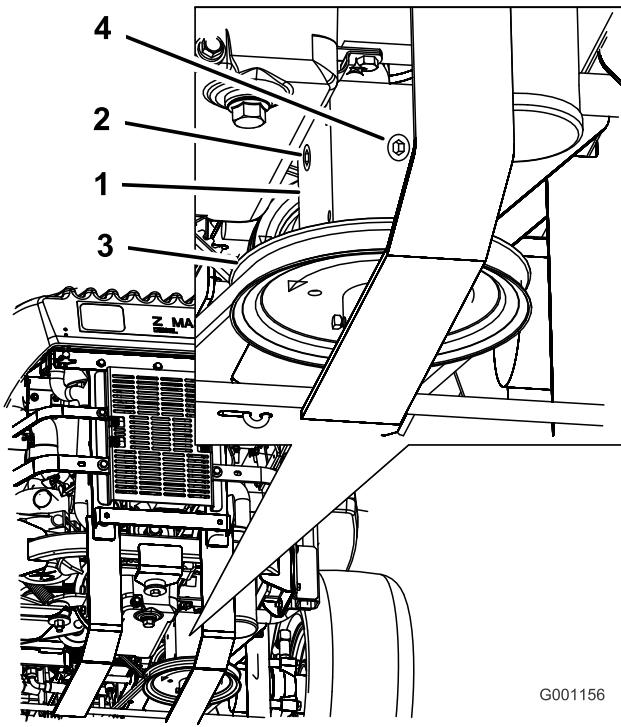

Figure 74
4. Remove the side or rear plug on the gearbox (Figure 74).